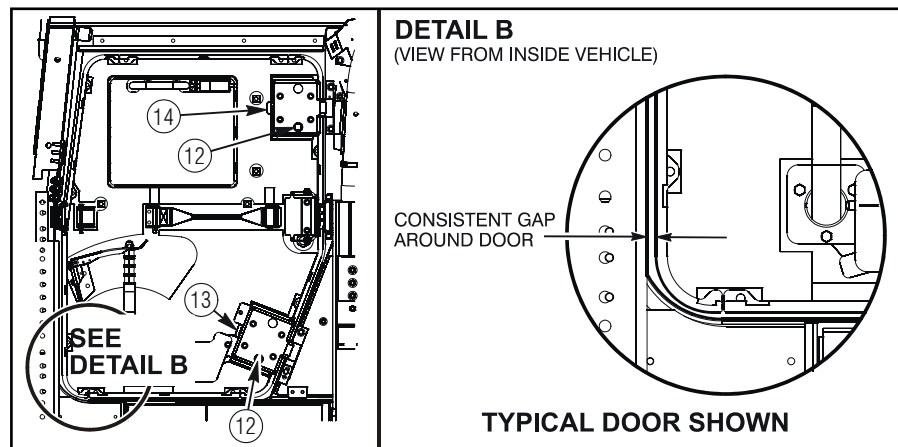

Figure 39b
5. With rear door assembly (8) open, use an adjustable wrench to lock out upper latch assembly (14) and lower latch assembly (13) by turning square lug (12) clockwise for left side doors and counter clockwise for right side doors. Refer to figure 39b.